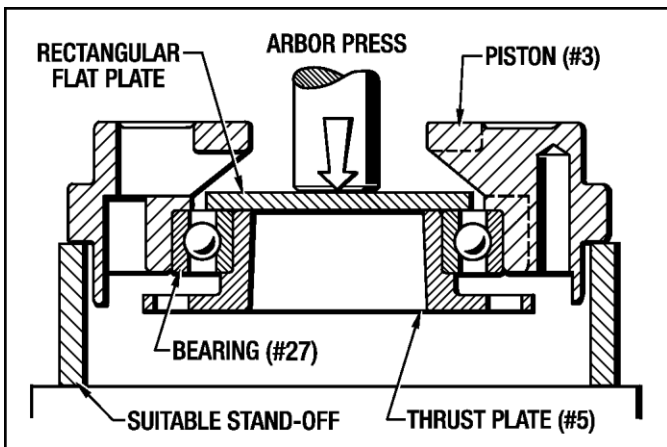

Figure 7.6 - Piston Disassembly
(See Figures 7.6, 7.7 and 10.1)
1. Insert a Rectangular Flat Plate into the Piston (#3) and lay it on the top surface of the Bearing (#27). (See Figure 7.6)
2. Press the Bearing (#27) and Thrust Plate (#5) out of the Piston (#3) with an arbor press. (See Figure 7.6)